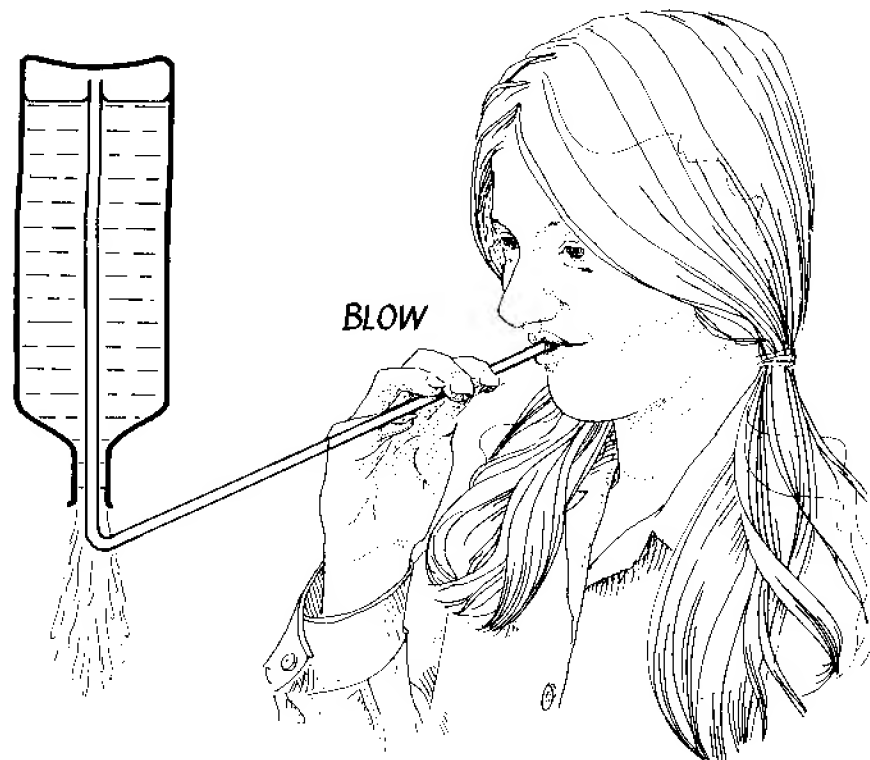

Figure 24.4 Method No. 6
6. Using the glass tubing method but, as soon as the bottle is turned upside down, blowing through the tubing (see Figure 24.4).